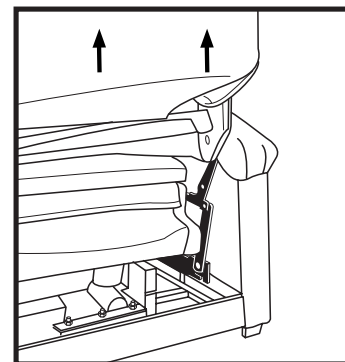

Figure 8. Chair Back Removal
3. Lift the chair back up from the base of the chair. See figure 8.